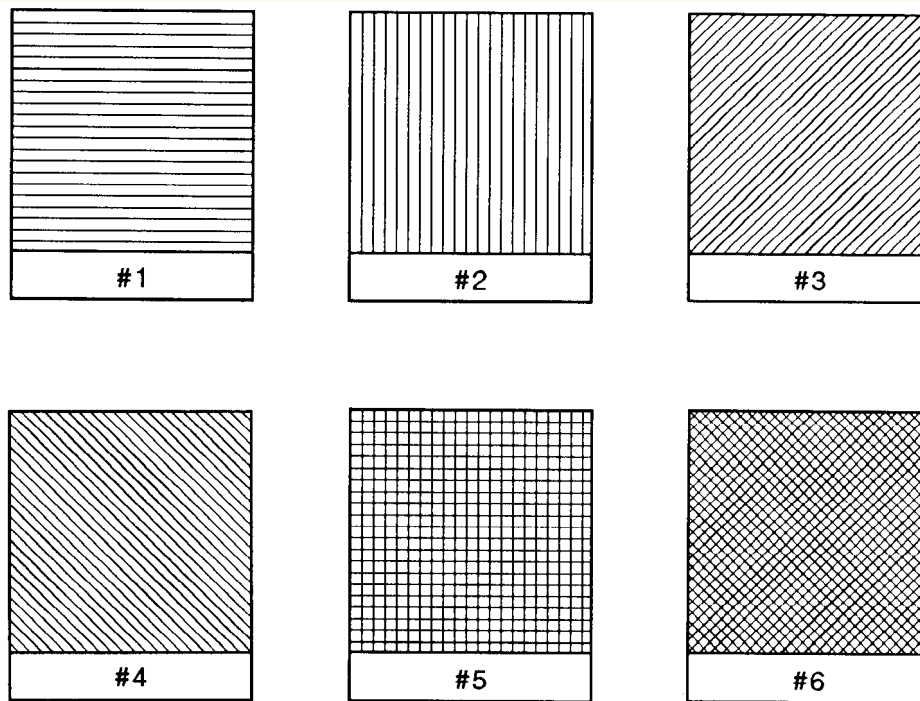

Figure 149. Patterns for Fill Type 21
- For *screen_type* 21, the *option1* parameter selects one of the six predefined cross-hatch patterns using a value between 1 and 6 (see Figure 149).